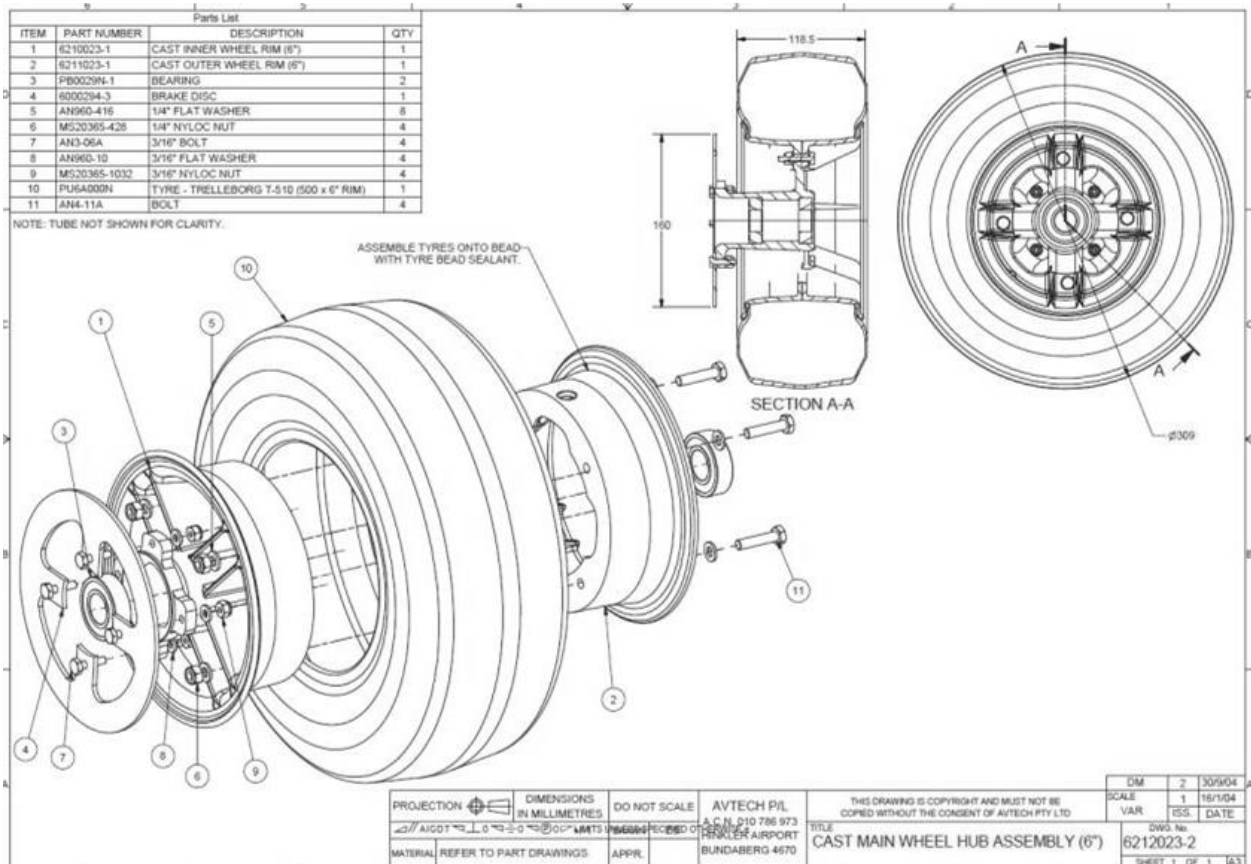

Figure 77 – Main Wheel Assembly (all J-Series)
- Figure 77 shows a typical wheel assembly. While details and part numbers vary from model to model the general arrangement shown applies to all aircraft.